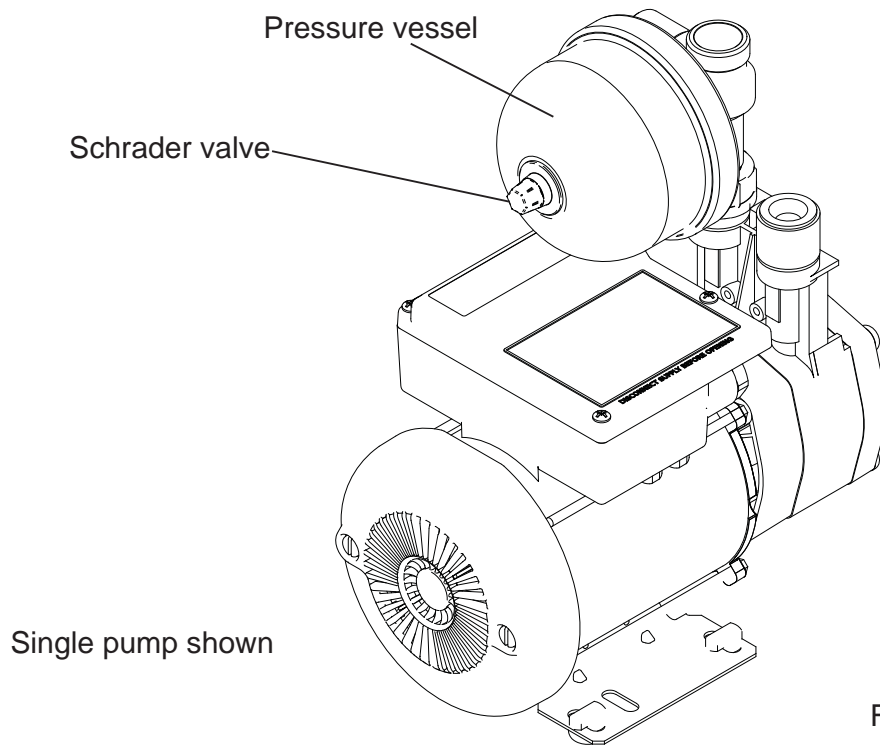

Fig. 19
- d) Check air pre-charge at Schrader valve (Fig. 19) using a tyre pressure gauge.